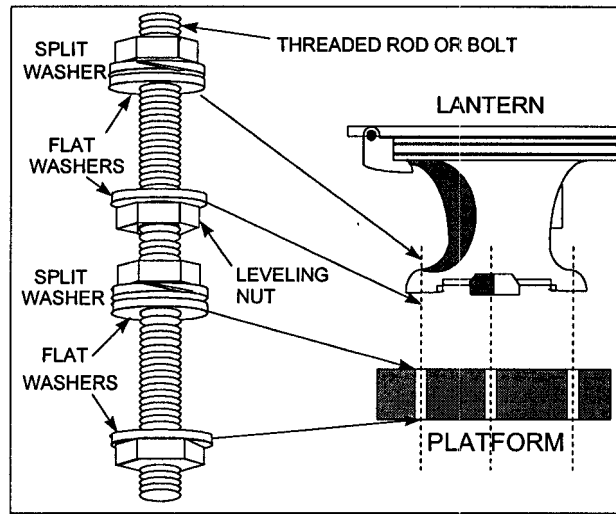

Figure 2-1
- a. Install three (3) threaded rods or bolts on the platform as shown in Figure 2-1 (only three of the four holes in they base are used). Add the leveling nut and flat washer at this time.